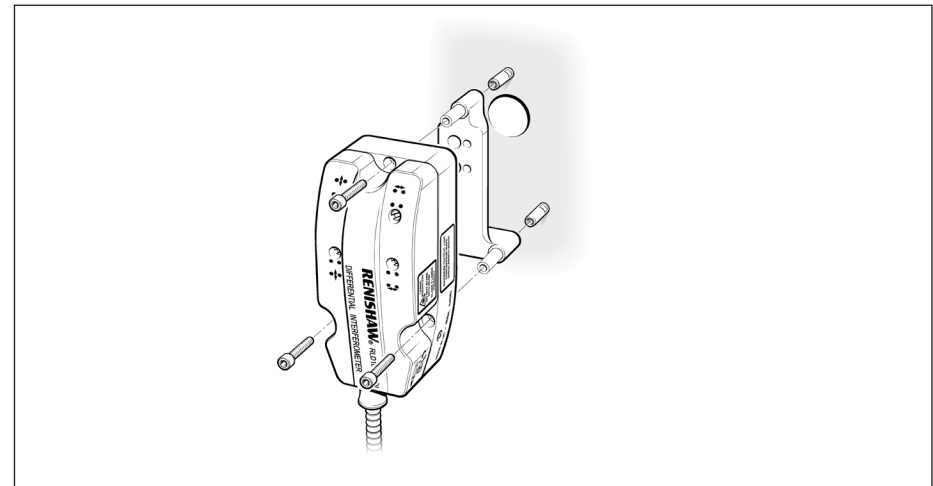

Figure 45 Alignment aid
2. Fit the alignment aid between the chamber and the DI head, as shown in Figure 45, using the three M3 × 25 screws provided in the alignment aid kit and tighten to 0.6 Nm.